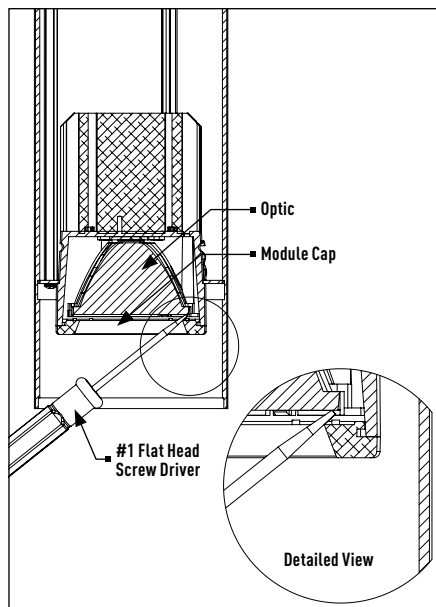

figure 2
3. Insert #1 flat head screw driver between optic and module cap as shown on detail call out (round pendant only, square pendant use finger to grip module at cap) pull down gently (see figure.2)